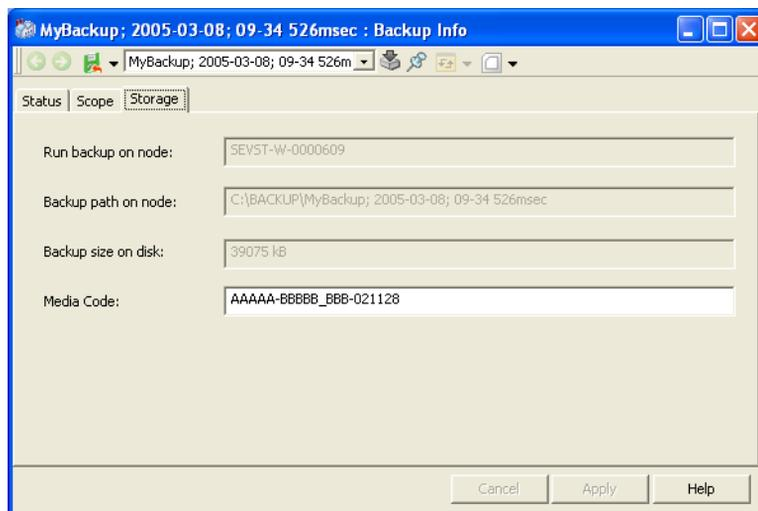

Figure 53. The Storage Tab of the Backup Info Aspect
4. A new Full Backup object is created when the Full Backup is running. It will be created in the Maintenance Structure under the Backups object. It will be called <Backup Definition Name>; <Date>; <Time>. For an example of the path, see Figure 53 on page 123.
If the backup is copied to a media, for example a CD or DVD, the media code can be entered in this dialog as well. See Figure 53 below.